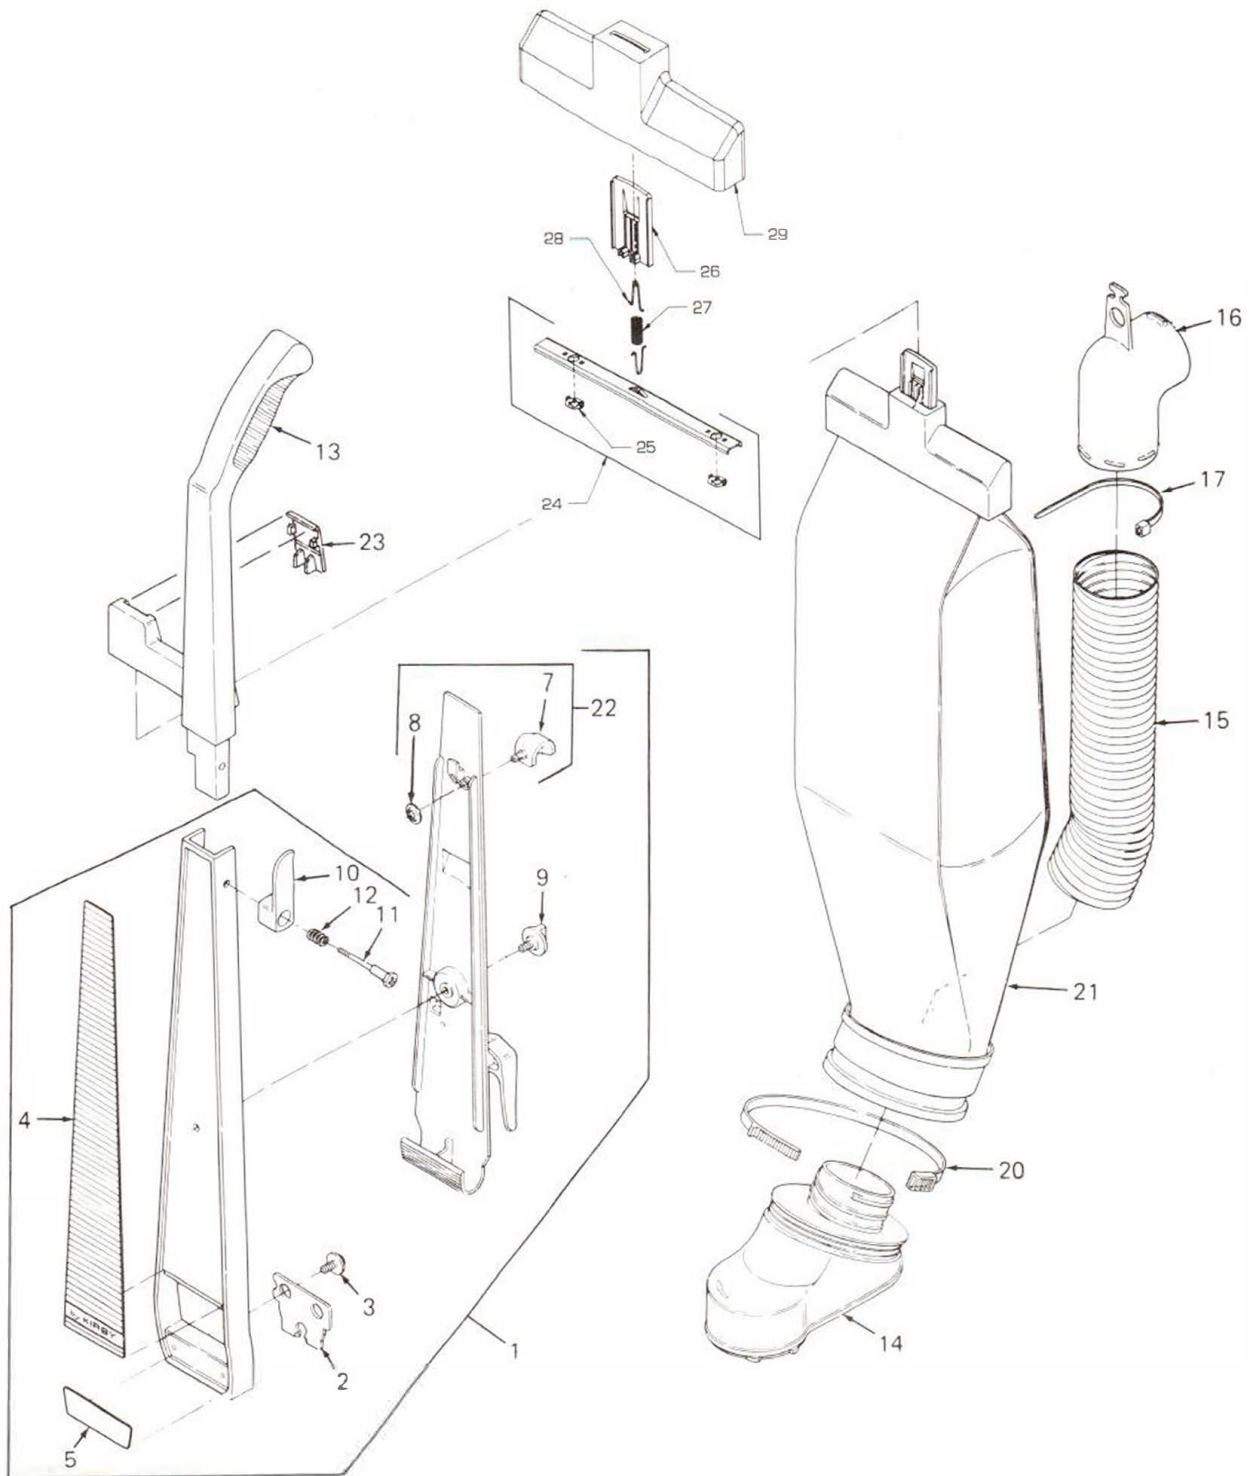

Figure 38. Handle Assembly, Mini Em-Tor and Bag
- G. Lock the strap and insure that all the teeth on the opposite end from the cross bar lock are secured by the ribs of the lock. This can be accomplished by using channel lock pliers or a wide flat bladed screw driver while applying pressure behind the raised tab just behind the teeth area. *See Figure 38, page 38.*